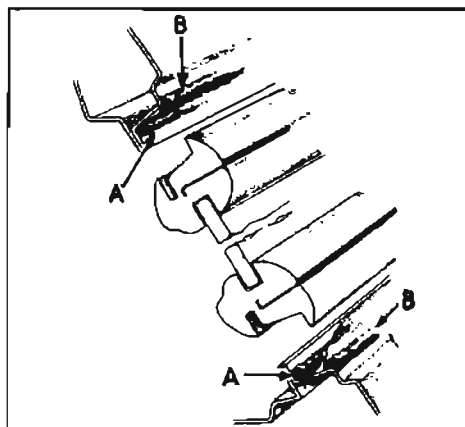

Figure 13-31—Location of Back Window Sealing Compounds
6. Apply continuous beads of 3-M Autobody Sealer completely around the window opening at (A) outer corner of pinchweld flange and (B) outer corner of window opening rabbet. See figure 13-31.